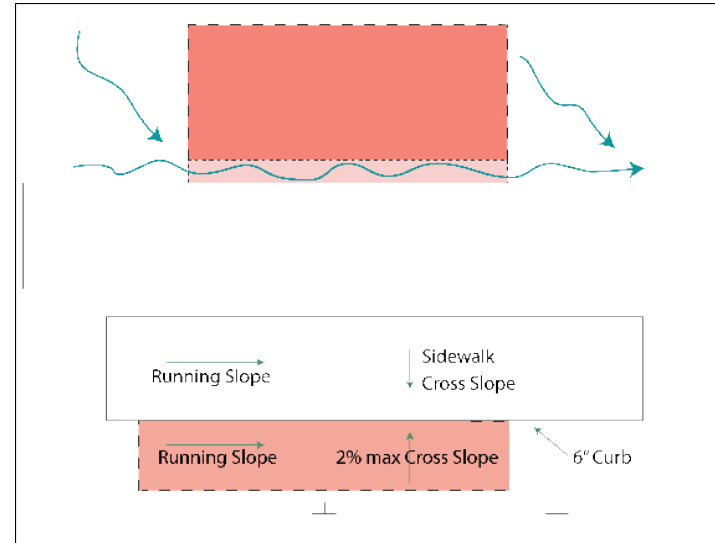

Figure 5. Permanent seating integrated into the parklet design
- Overall, seating should contribute to an inviting atmosphere that encourages parklet use rather than simply contributing to aesthetic appeal. See figure 5.